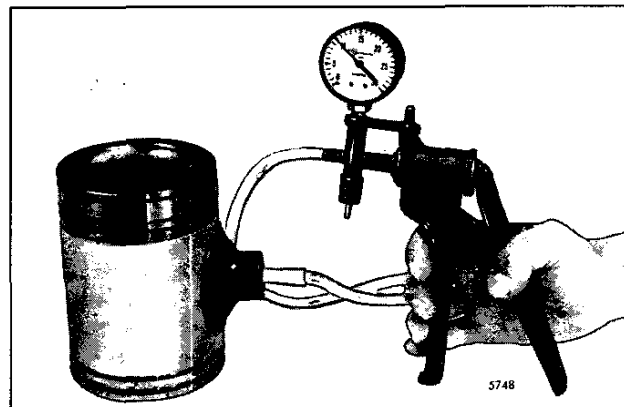

Fig. 17 – Checking Piston Pin Retainer for Proper Sealing with Tool J 23987-01
11. One important function of the piston pin retainer is to prevent the oil, which cools the underside of the piston and lubricates the piston pin bushing, from reaching the cylinder walls. Check each retainer for proper sealing with leak detector J 23987-01 (Fig. 17). Place the suction cup over the retainer and hand operate the lever to pull a vacuum of ten inches on the gage. A drop in the gage reading indicates air leakage at the retainer.